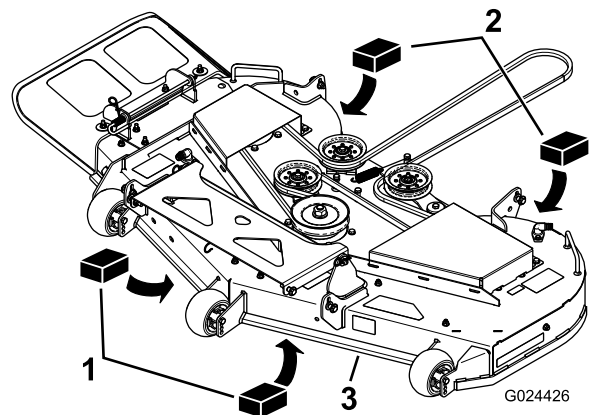

Figure 75
3. Place 2 blocks, each having a thickness of 6.6 cm (2-5/8 inches), under each side of the front edge of the deck but not under the anti-scalp roller brackets (Figure 75).
4. Place 2 blocks, each having a thickness of 7.3 cm (2-7/8 inches), under the rear edge of the cutting deck skirt, 1 on each side of the cutting deck (Figure 75).